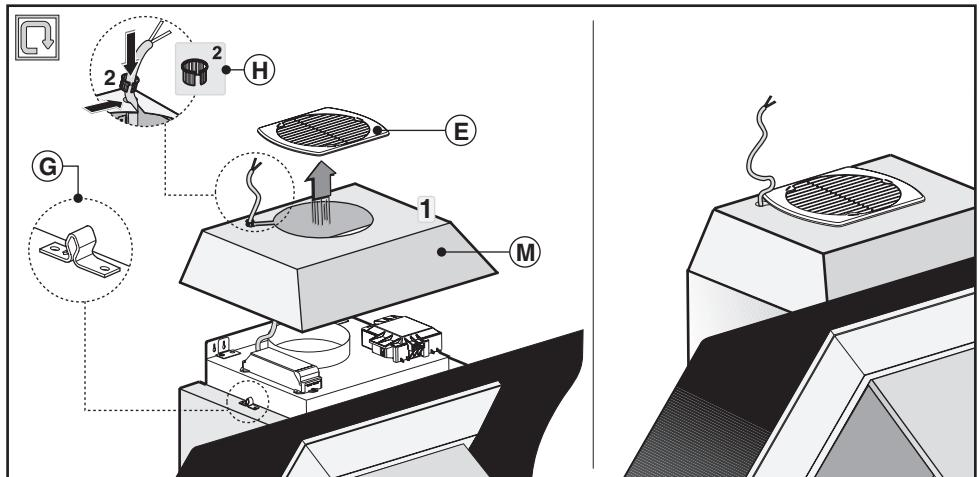

Fig.8
-Fix the small cupola **M** and the grille **E** making sure that it is perfectly hooked on to the fastening pins **G** (Fig.8).